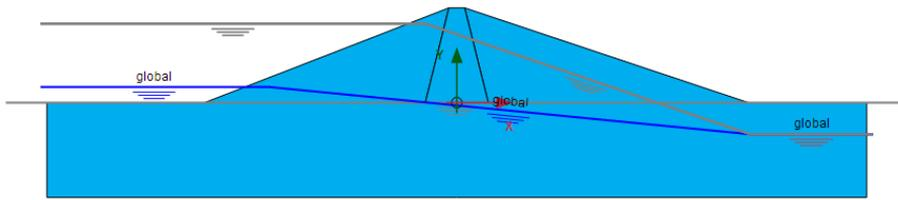

Figure 8.12 Model for the low level case in the *Flow conditions* mode
- In the *Water* subtree under the *Model conditions* in the *Model explorer* assign the new water level (*LowLevel_Steady*) to *GlobalWaterLevel*. All the defined water levels are shown in Figure 8.12.